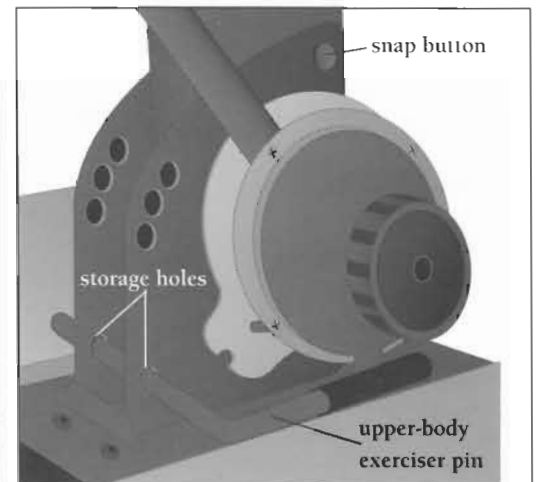

Figure 3
2. Insert the upper-body exerciser pin into the storage holes at the bottom of the upright tube (Figure 3).
4. Use one hand to depress the snap buttons on both sides of the upright tube (Figure 3). Use your other hand to support the upright tube.